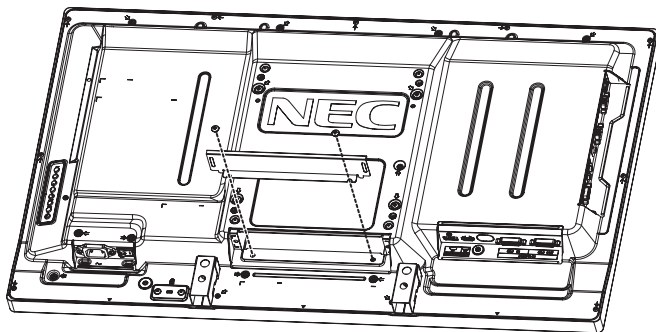

Figure 1
3. Remove the attached slot cover by unscrewing the installed screws (**Figure 1**).